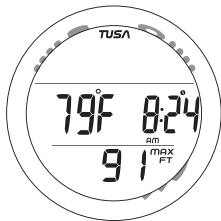

Fig. 90 - GAUG DIVE ALT
**Gaug Dive ALT** information includes (Fig. 90) -